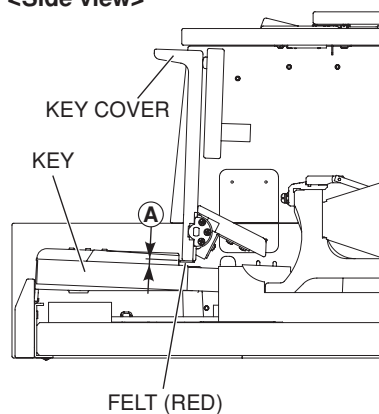

Fig. 2
(4) Key cover height within standard? (Check the left and right end.)
- Standard 1 Make sure the red felt does not rub against keys and is not rolled up when opening the key cover. (Fig. 2)
- Standard 2 Make sure the gap between the red felt and the keys is not too wide when the key cover is opened. (Fig. 2)
4.5 mm $\pm$ 1 mm, difference on the left and right within 1 mm (Fig. 2)